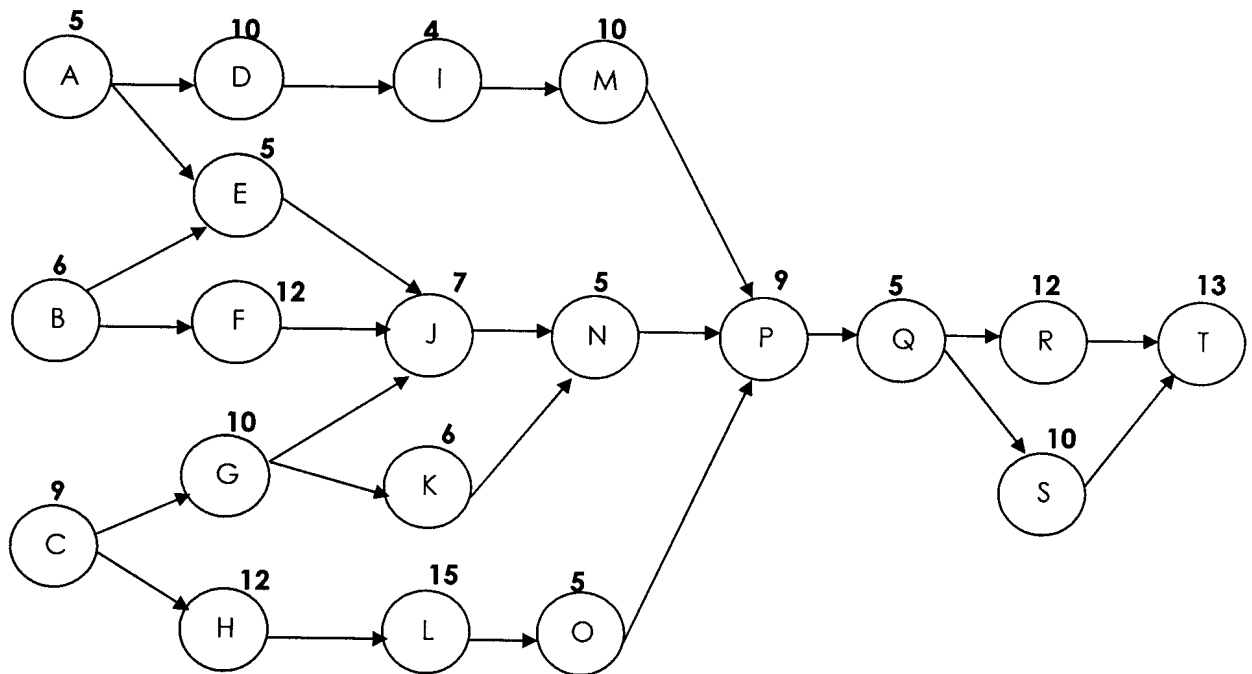

Figure 1
3. (20 points) A factory produces wood toys with the sequence process by Figure 1.